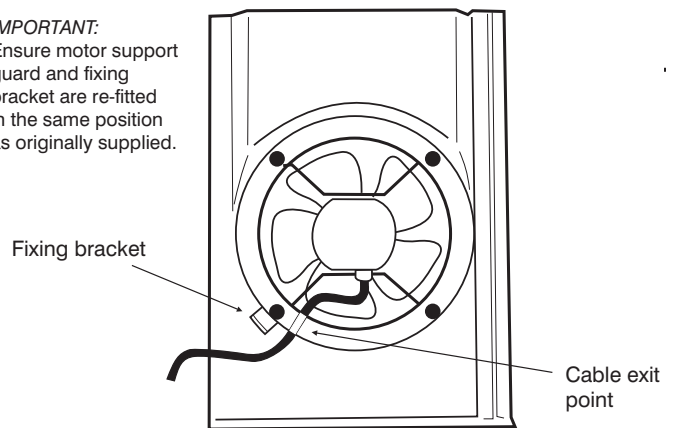

Figure 6. - View from underside of fan
3. Fasten the inlet spigot in position with the M6 flange nuts, ensuring that the motor support guard and fixing bracket are in the same position as originally supplied. (See Figure 6.)